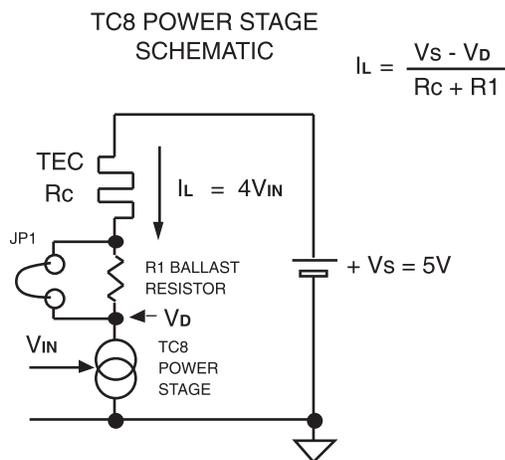
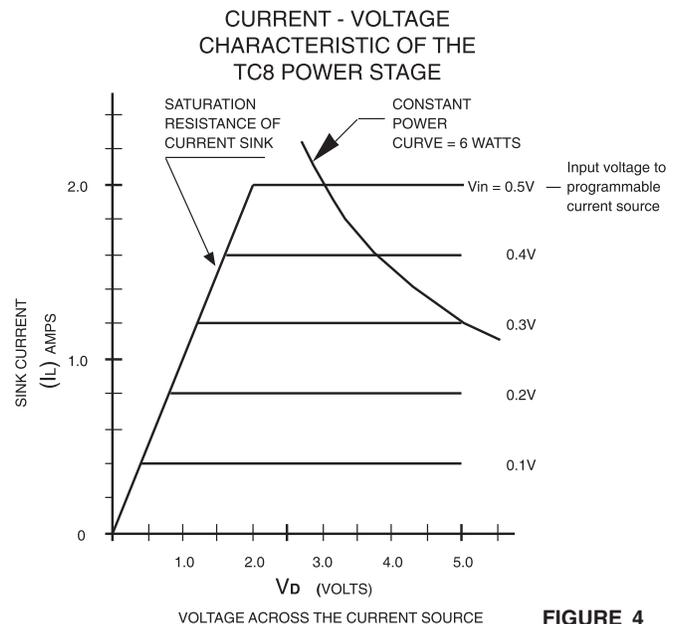
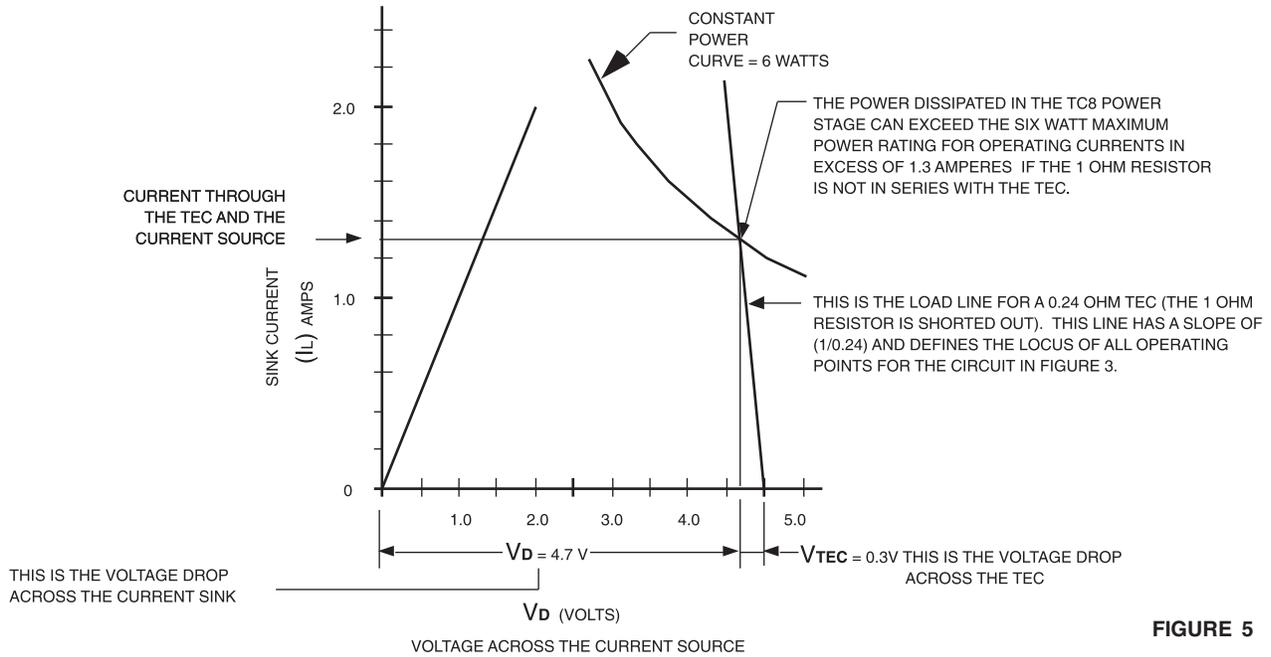

FIGURE 3
FIGURE 4
FIGURE 5
A one ohm power resistor (R1) that is in series with the TEC and the power driver, is incorporated on the TC8 P.C. board (Figure 3). This resistor should be used if a TEC with a very low resistance is used, otherwise it is possible to operate the power stage of the TC8 at power level in excess of the 6 Watt maximum rating. A jumper across connector JP1 will short R1 out if it is not needed. Note that the current flowing through the TEC, the 1 $\Omega$  resistor (if used) and the TC8 power stage is the same and that the power supply voltage (VS) is divided between these three elements. A load line technique can be used to determine the voltage drop across each of these elements. This will show if the power dissipated in the TC8 current source can exceed the six watt limit which in turn will determine if the 1 $\Omega$  resistor is needed. This is accomplished by superimposing a load line for the TEC on the Current-Voltage characteristic of the TC8 power stage illustrated in Figure 4.
From the TEC specifications determine the maximum voltage and current limits and calculate the equivalent resistance. For example: Suppose the TEC is rated at 2 Amperes maximum at a maximum operating voltage of 0.48 Volts. This is equivalent to a resistance of 0.24 $\Omega$ . To obtain the load line draw a line, with a slope of 1 divided by the resistance, through 5 Volts on the (X) axis in Figure 5. This line defines the locus of operating point for the circuit in Figure 3 and is illustrated in Figure 5.
It can be seen from Figure 5 that the power dissipation in the TC8 current sink can be exceeded for TEC drive currents in excess of 1.3 Amperes. The problem can be rectified by placing the 1Ω resistor in series with the TEC (remove the jumper). Now the resistance in series with the current sink is 1.24Ω and the load line passes through 5 Volts on the (X) axis and has a slope of 1 divided by 1.24Ω. This line defines the new locus of operating point for the circuit in Figure 3 and is illustrated in Figure 6.